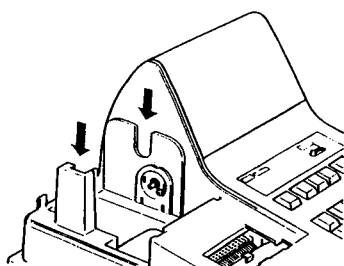

Fig. 5
5. Set the reel to the reel holder, and then attach the Paper Cover. (Fig. 5)